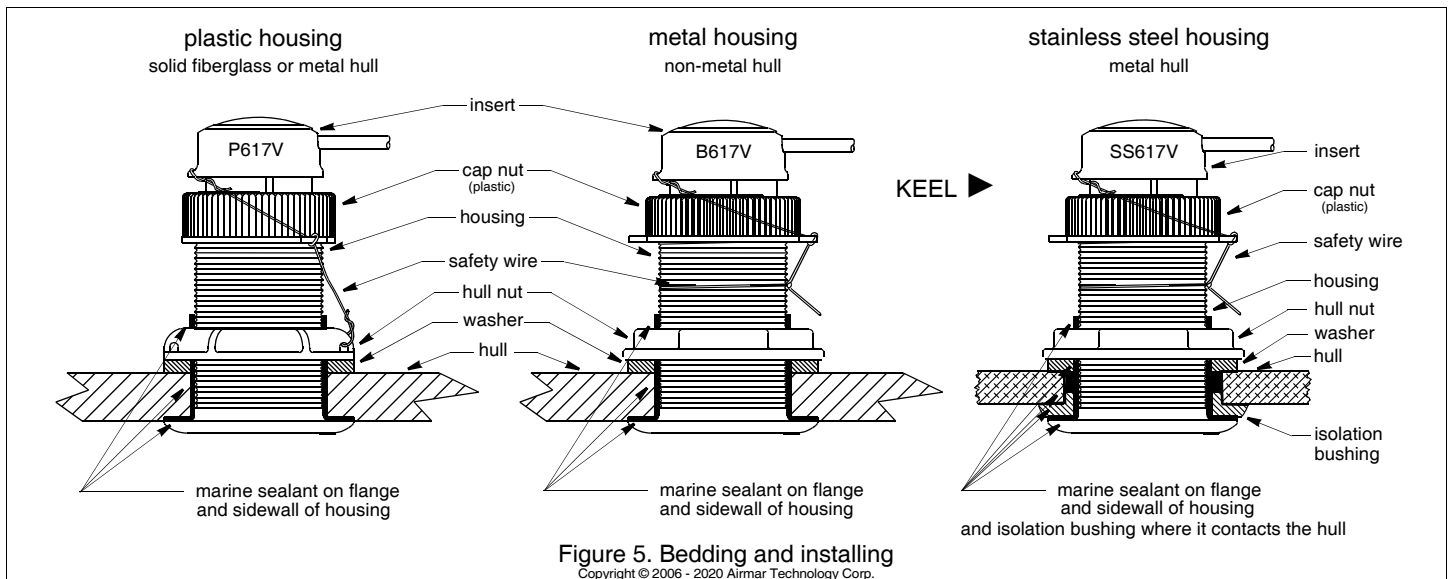

Figure 5. Bedding and installing
Apply a 2mm (1/16") thick layer of marine sealant around the flange of the housing that will contact the hull and up the sidewall of the housing (Figure 5). *The sealant must extend 6mm (1/4") higher than the combined thickness of the hull, the washer, and the hull nut.* This will ensure there is sealant in the threads to seal the hull and to hold the hull nut securely in place.
1. From outside the hull, push the housing into the mounting hole using a twisting motion to squeeze out excess sealant (Figure 5).
6. The insert must be fully inserted into the housing and the cap nut screwed on completely to make a watertight seal (Figure 5). **Slide the insert into the housing with the arrow on the top pointing toward the KEEL/centerline of the boat** (Figure 1).
7. Screw the cap nut several turns until the threads are engaged (Figure 5). Being sure the arrow on the top of the insert and the cable exit are pointing toward the keel/centerline, continue to tighten the cap nut completely. Be careful not to rotate the housing and disturb the sealant. **Hand tighten** only. Do not over tighten.
2. Remove the insert from the housing by removing the safety wire and unscrewing the cap nut (Figure 5). This will raise the insert. Remove the insert with a slow pulling motion. Replace it by sliding the blanking plug into the housing.